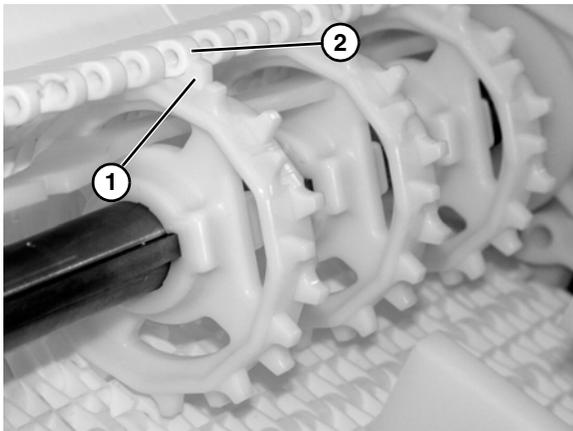

Figure 8
1. Position the belt on the conveyor frame (Figure 8).